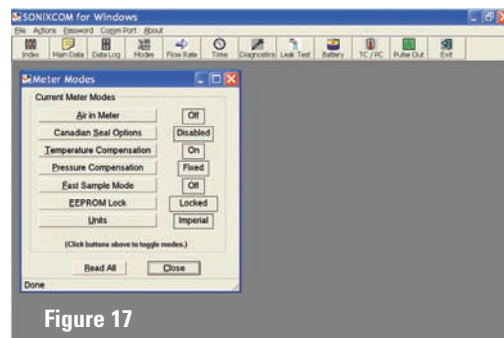

Figure 17
- Ensure the EEPROM is LOCKED, to prevent any other changes (Figure 17)